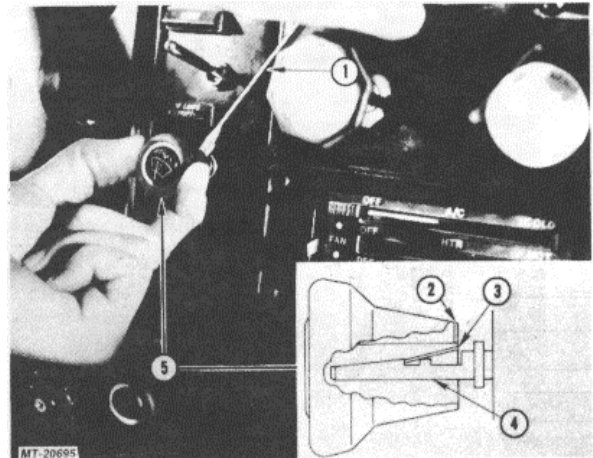

Fig. 6. Removing Control Knob from Switch
1. Remove control knob for electric control switch by depressing retaining clip on back of knob with offset or small screw- driver (Fig. 6).